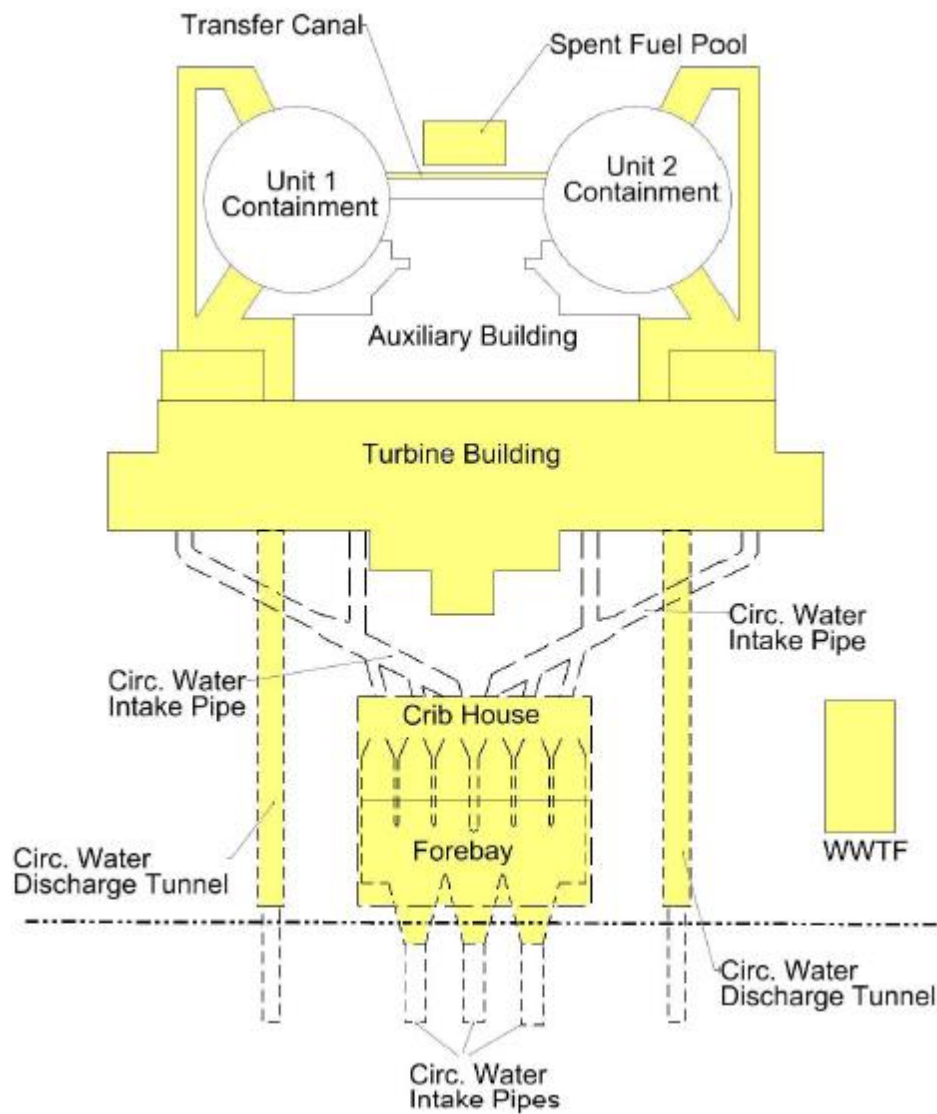

Figure 1- Ancillary Structures
As discussed in the Reactor Building and Auxiliary Building technical support documents, (1) (2), the Exelon and Zion *Solutions* Asset Sale Agreement (3) requires all systems, structures, and components (SSCs) or “improvements” to be removed to 3 feet below finish grade of site (e.g., 588’ elevation). Scoping and characterization surveys have been performed in all the substructures that will remain in the end state except for those in the Spent Fuel Building whose end state spent fuel pool and transfer canal substructures are inaccessible. The Unit 1 and 2 Reactor Buildings, Auxiliary Building and Spent Fuel Building end state structures are anticipated to contain the bulk of the end state radioactive source term and bound the potential future dose to the maximally exposed member of the critical group. The Containments and Auxiliary Building end state concrete has been characterized and the structures have separate detailed TSDs to estimate end state surface areas, volumes and source terms. The ancillary buildings addressed in this TSD are shown in yellow in Figure 1 and consist of the Turbine Building, Crib House, Waste Water Treatment Facility (WWTF) and Spent Fuel Building. All other site buildings such as the Service Building and Diesel Generator Buildings will not have substructures below the 588 foot elevation remaining in the end state.